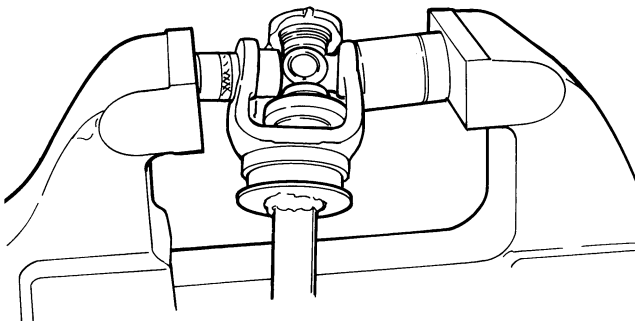

Figure 9
8. Insert the yoke in the vise with the smaller socket against the cross and the larger socket supporting the yoke as shown in Figure 9.